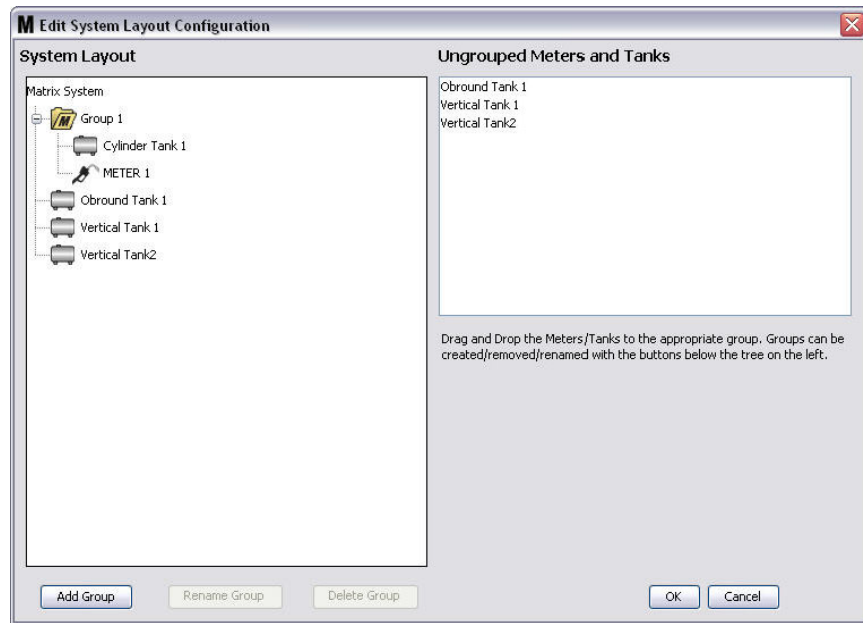

FIG. 129
8. The selected tanks and meters now appear under the folder icon on the Matrix System side of the screen as shown in FIG. 129.
10. To Rename a group, use your mouse to select the group folder on the list on the Matrix System side of the screen. Click the Rename Group button (FIG. 129).
11. To Delete a group, use your mouse to select the group folder on the Matrix System side of the screen. Click the Delete Group button (FIG. 129).